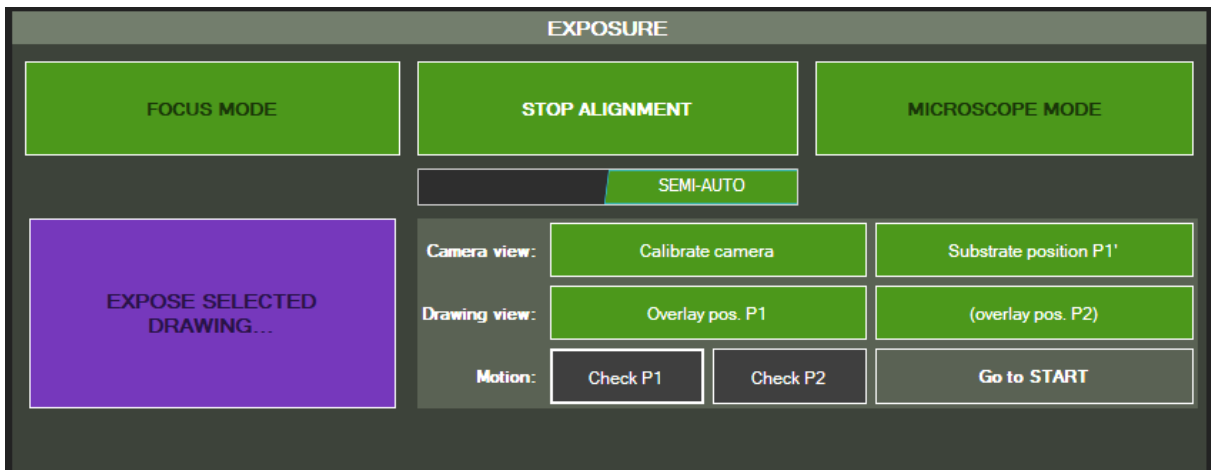

Figure 66 - Semi-auto alignment panel after defining P1', P1 and P2
- Alignment checking: in order to check the validity of the adjustment, click on the **Check P1** button (Figure 66). The stage will then move to align P1' (on the substrate) with P1 (on the drawing) as shown in Figure 61e. If P1 and P1' are not correctly centered make again the
- Finishing the alignment setting: click on **Go to START** (Figure 66) and quit the alignment mode by clicking on the **QUIT ALIGNMENT** button.